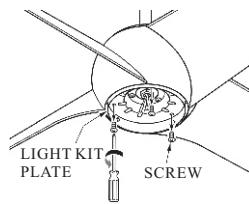

FIG. 18
3. Remove the 3 screws from the light kit and keep it for future use.(See fig.18)